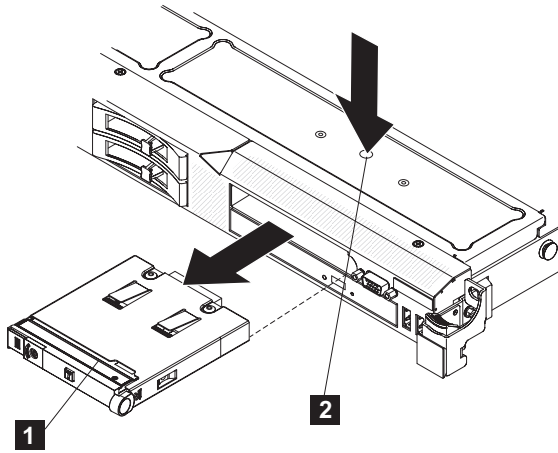

Figure 209. Using the release tab to remove the SAN Volume Controller 2145-CG8 or 2145-CF8 operator-information panel
7. Use an object to push down on the release tab (**2** in Figure 209 on page 214).